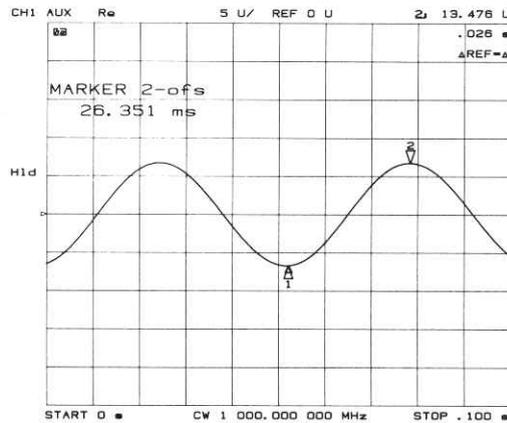

Figure 4-16. Real Format
**[REAL]** (REAL) displays only the real part of the measured data on a Cartesian format (Figure 4-16). This is similar to the linear magnitude format, but can show both positive and negative values. It is primarily used for analyzing responses in the time domain, and also for display of an auxiliary input voltage signal for service purposes.